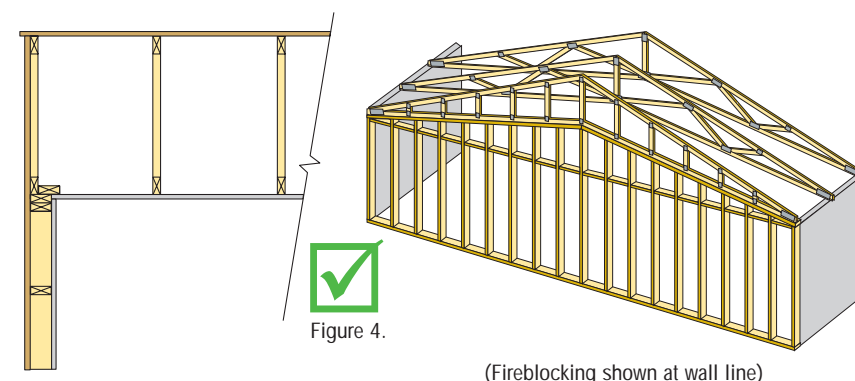

Figure 4.
5. This situation can be resolved by constructing a gable end wall that matches the ceiling profile of the cathedral or vaulted ceiling, using full height studs extending up to the bottom chord of the gable end truss. The truss manufacturer can then construct a gable end truss with the same profile as the adjacent roof truss. A wood nailer must then be added to the top of the wall to support the ceiling finish. This is illustrated in Figure 4 below. An added benefit to this is the reduced risk of a crack developing in the corner of gypsum ceilings due to wood shrinkage.